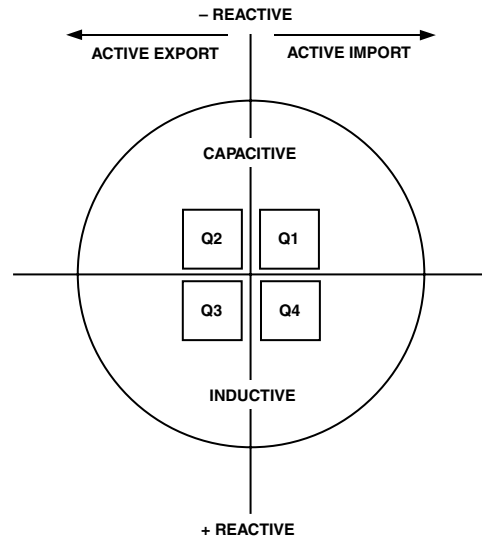

Figure 10.
- Figure 10 gives the quadrant convention used by the chipset.